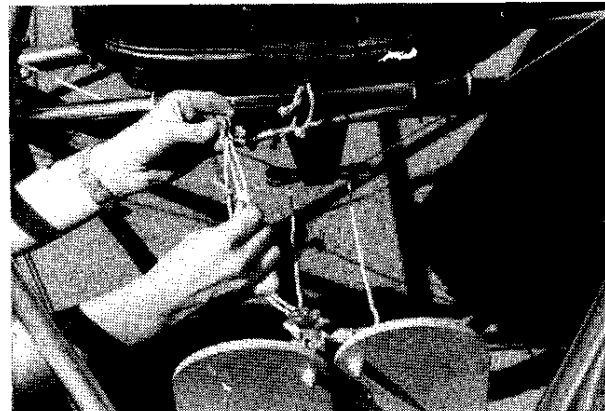

Figure 2.70
81. Continue line through pulley at spoiler pedal and back to tri-bar bracket. **Figure 2.70**